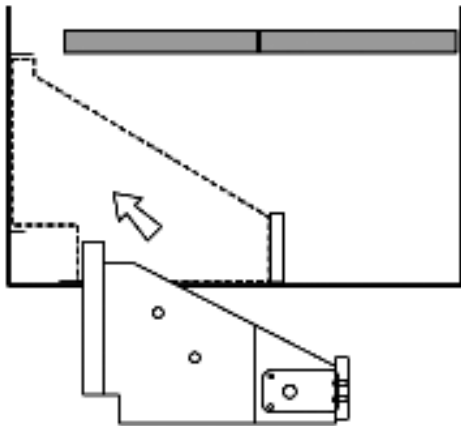

Fig. 5- Top View of Economizer Installation
7. Insert the Economizer assembly into the rooftop unit, positioning the Economizer to the far left side of the opening. See Fig. 5.